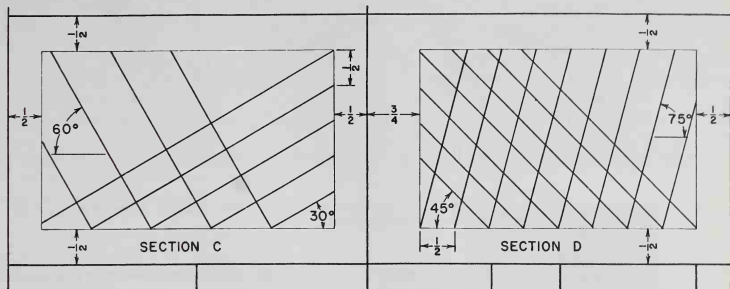

Fig. 1-30. Layout for Sections C and D of Plate No. 1.
1. Draw inclined lines in sections C and D, as shown in Fig. 1-30.